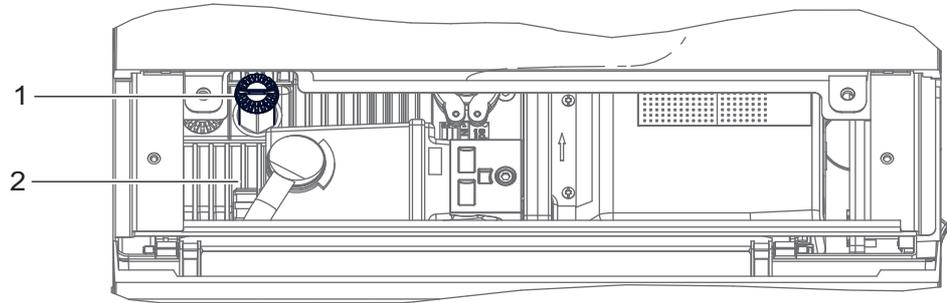

Fig. 14: Oil fill opening
- Loosen the filling plug (1) (Fig. 14).
- Install the funnel in the filling opening (3).
- Put the funnel (included with the detector) in the oil fill opening (3).